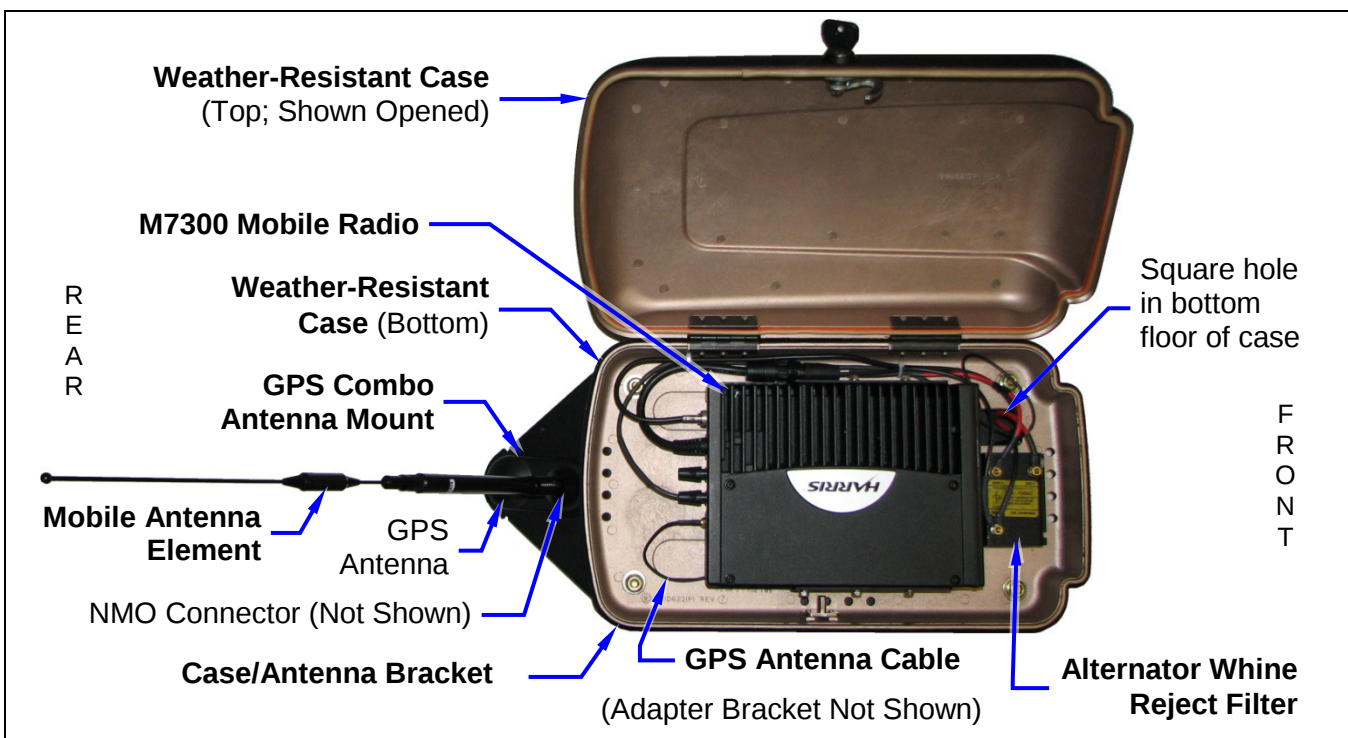
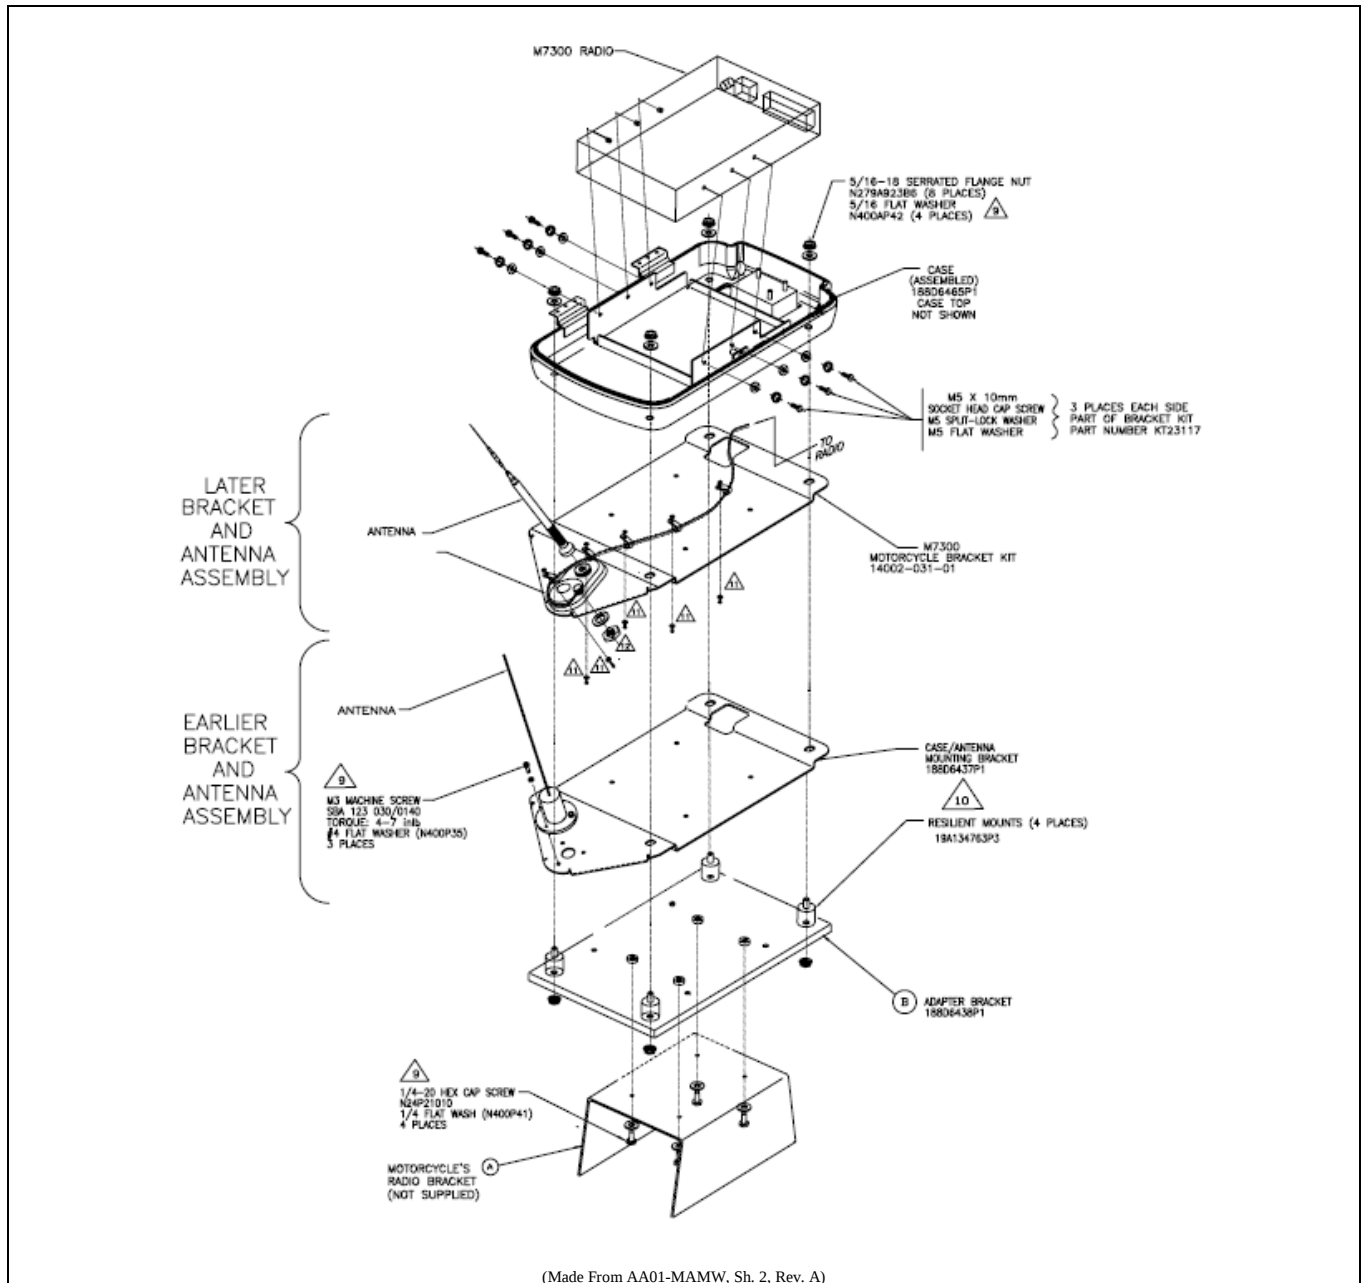
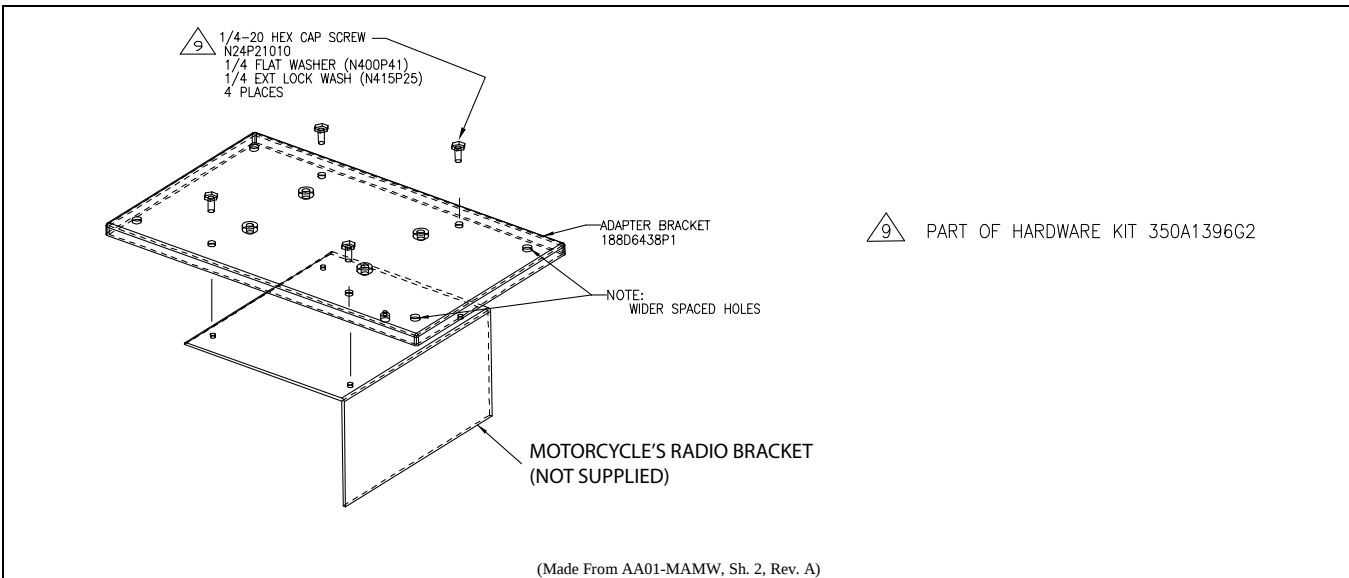
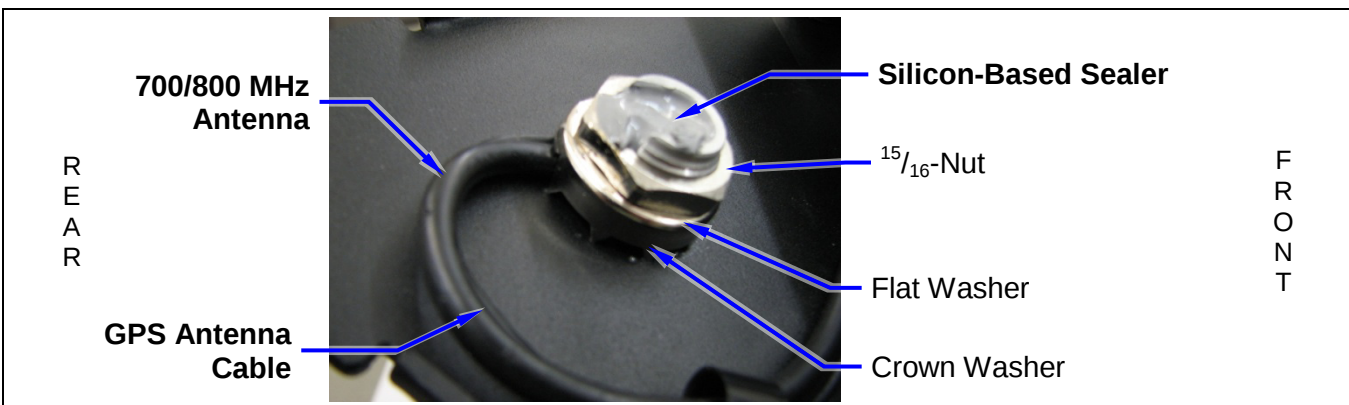

Figure 5-4: Radio inside Motorcycle Radio Case (For 700 and 800 MHz Only)
Figure 6-1: Assembling, Mounting and Installing the Radio Case and Brackets
Figure 6-2: Alternate Mounting for Adapter Bracket
Figure 6-3: Antenna Mount Viewed from Bottom with Sealer (For 700 and 800 MHz Only)
2. Obtain the four (4) resilient mounts in Motorcycle Adapter Bracket Mounting Kit 350A1396G4 (Item 7 in Table 4-2).
3. As illustrated in Figure 6-1, attach a resilient mount to each corner of the bracket using four of the eight $\frac{5}{16}$ -inch serrated nuts included in Hardware Kit 350A1396G2 (Item 6 in Table 4-2). Use each mount's shortest stub. Tighten these four (4) nuts securely. A torque of approximately 100 in.-lbs. (11.3 N.m.) is recommended.
4. Using Figure 6-1 and/or Figure 6-2 as a guide, securely attach the Adapter Bracket to the motorcycle's radio bracket. Use the $\frac{1}{4}$ -20 x $\frac{5}{8}$ -inch-long bolts ("hex cap screws") and $\frac{1}{4}$ -inch flatwashers included in Hardware Kit 350A1396G2.
Some motorcycle radio brackets have pre-drilled holes that will match the four (4) PEM nuts in the Adapter Bracket. In this case, as illustrated in Figure 6-1, use a $\frac{1}{4}$ -inch flatwasher with each $\frac{1}{4}$ -20 bolt and first pass each bolt through the bracket hole, then into the respective PEM nut in the Adapter Bracket.
Other motorcycle radio brackets have pre-installed PEM nuts that match holes (without PEM nuts) in the Adapter Bracket. In this case, as illustrated in Figure 6-2, use $\frac{1}{4}$ -inch washers with each $\frac{1}{4}$ -20 bolt and first pass each bolt through the respective hole in the Adapter Bracket, then into the respective PEM nut in the motorcycle's radio bracket.
3. Set the Case/Antenna Bracket onto the $\frac{5}{16}$ -inch studs of the four (4) resilient mounts. These mounts were attached to the Adapter Bracket in the previous procedure. Pass the studs through the oval-shaped holes in the corners of the Case/Antenna Bracket. The bracket's triangle-shaped antenna mounting surface must face to the rear of the motorcycle.
5. As illustrated in Figure 6-1, place the case over the Case/Antenna Bracket, and onto the $\frac{5}{16}$ -inch studs, passing the studs through the holes in the floor of the case. The square hole in the bottom floor of the case must be towards the front of the motorcycle, so it is directly over the square hole in the Case/Antenna Bracket.
4. Install Antenna Mount onto the Case/Antenna Bracket in accordance with the installation instructions included with the mount. As illustrated in Figure 5-4 on page 31, the NMO connection of the mount must be positioned towards the front of the bracket (GPS antenna portion toward rear).
7. Secure the two antenna cables to the bottom of the bracket using the five (5) small nylon clamps and related hardware included with the bracket kit.
8. Using the included silicon sealer, seal the cable exit hole on the bottom of the mount. The sealer must be injected deep into the hole until it slightly protrudes out, as illustrated in Figure 6-3.
10. Set this bracket assembly onto the $\frac{5}{16}$ -inch studs of the four (4) resilient mounts. These mounts were attached to the Adapter Bracket in the Section 6.1 procedure. Pass the studs through the oval-shaped holes in the corners of the bracket. The bracket's triangle-shaped antenna mounting surface must face to the rear of the motorcycle.
13. As illustrated in Figure 6-1, place the case over the bracket assembly, and onto the $\frac{5}{16}$ -inch studs, passing the studs through the holes in the floor of the case. The square hole in the bottom floor of the case must be towards the front of the motorcycle, so it is directly over the square hole in the bracket assembly.
2. Attach the radio to the bracket using the six (6) M5 x 10 mm stainless-steel socket-head screws, and flatwashers and lockwashers included with the Remote-Mount Radio Mounting Bracket Kit KT23117 (item 4 in Table 4-2). See Figure 6-1.